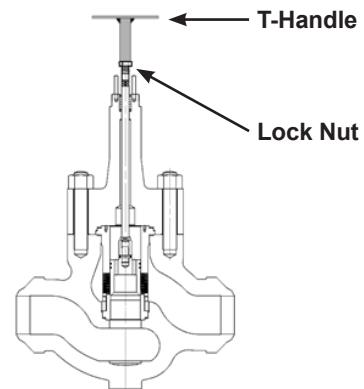

Figure 3 - Seat Lapping Device
8. Insert two or three pieces of packing (6) into the packing box to assist in guiding the stem and plug during lapping.
9. Screw a drilled and tapped rod with a T-handle onto the plug stem and secure with a locknut (see Figure 3).